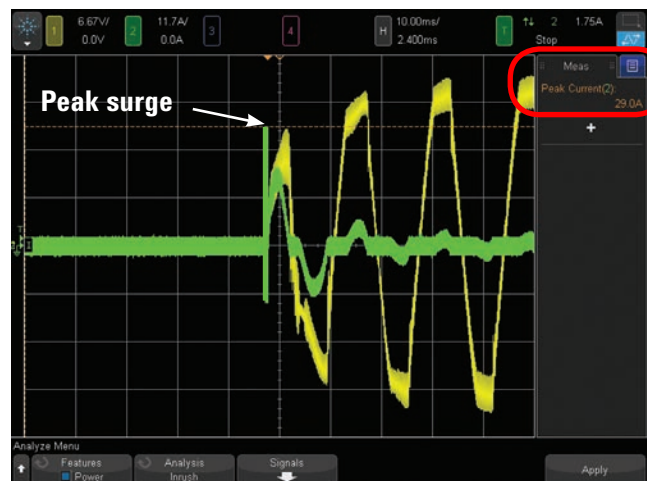

Figure 14: Inrush current measurement.
12. Repeat several times in order to obtain the worst-case peak inrush current as shown in Figure 14.